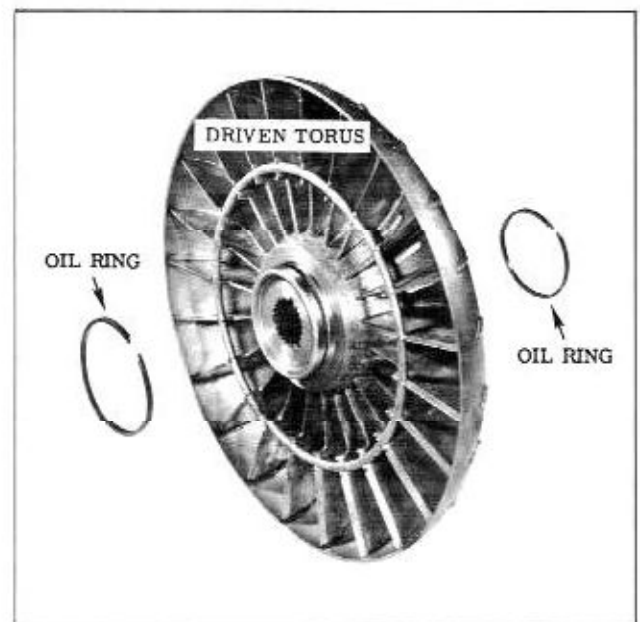

Fig. 3-119 Driven Torus Oil Rings
3. Install lock type oil ring on front and rear hubs of driven torus member, if removed. (Fig. 3-119)